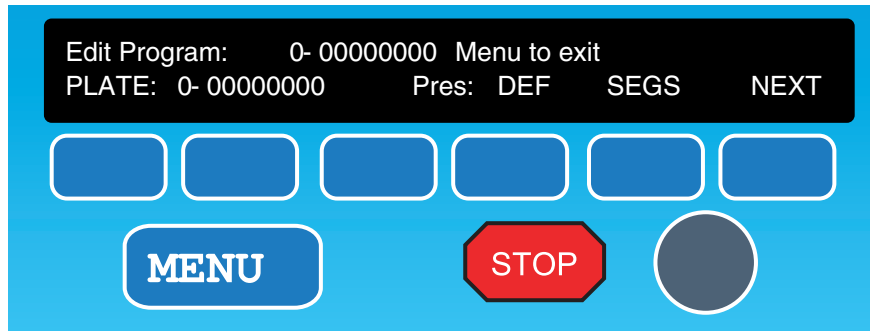

Figure 7-22: The **Edit Program** screen.
- 4) After the name is entered, press the **CREATE** softkey to advance the screen to the **Edit Program** screen (Figure 7-22).